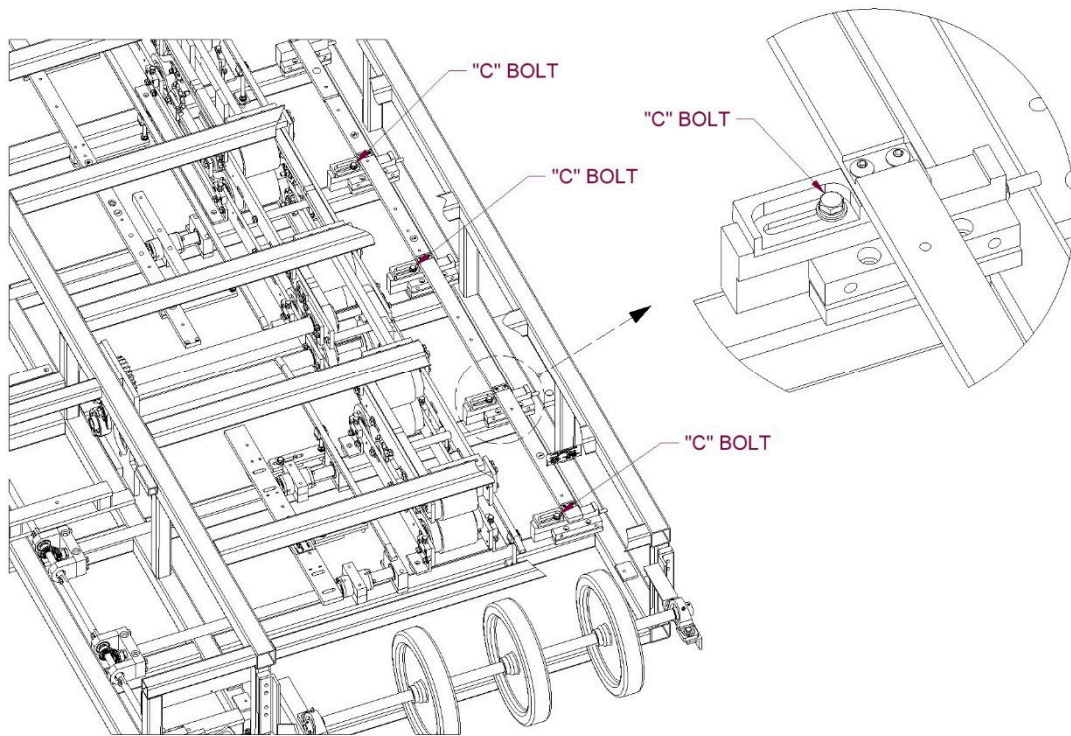

Figure 64: April 2009 and later
5. Loosen bolt “C” on the first 4 Slide Block assemblies (Figure 64).
6. Once all 4 bolts are loose, slide the Right Side Fixed Mount Rail #1 to the correct position (Figure 65), either “inboard” or “outboard”. Make sure that it is fully in position and then tighten the “C” bolts (Figure 64).